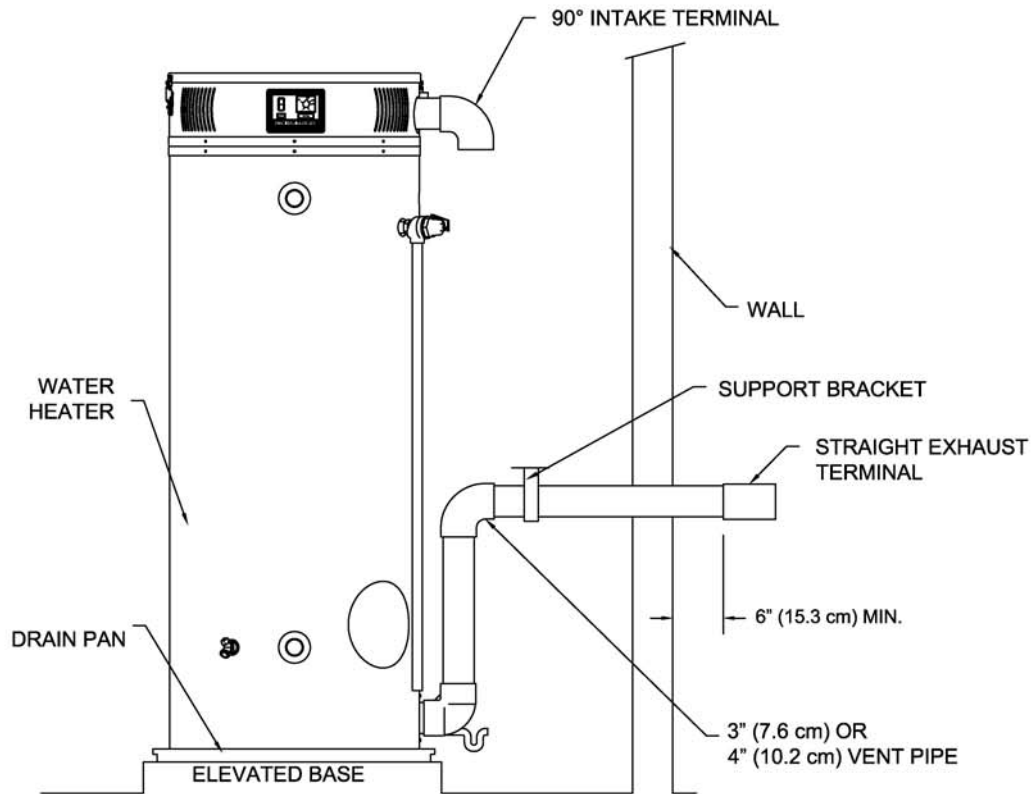

Figure 16. Typical Horizontal Power Vent System
2. Use the proper cement primers or sealant to secure the exhaust vent terminal provided with the water heater to the vent pipes. The distance between the back edge of the exhaust vent terminal and the exterior wall (see Figure 16) must 6 inches (*15.2 cm*). Use the proper cement and assembly procedures to secure the vent connector joints between the terminal and the blower outlet. Provide support brackets for every 3 feet (*.9 m*) of horizontal vent.